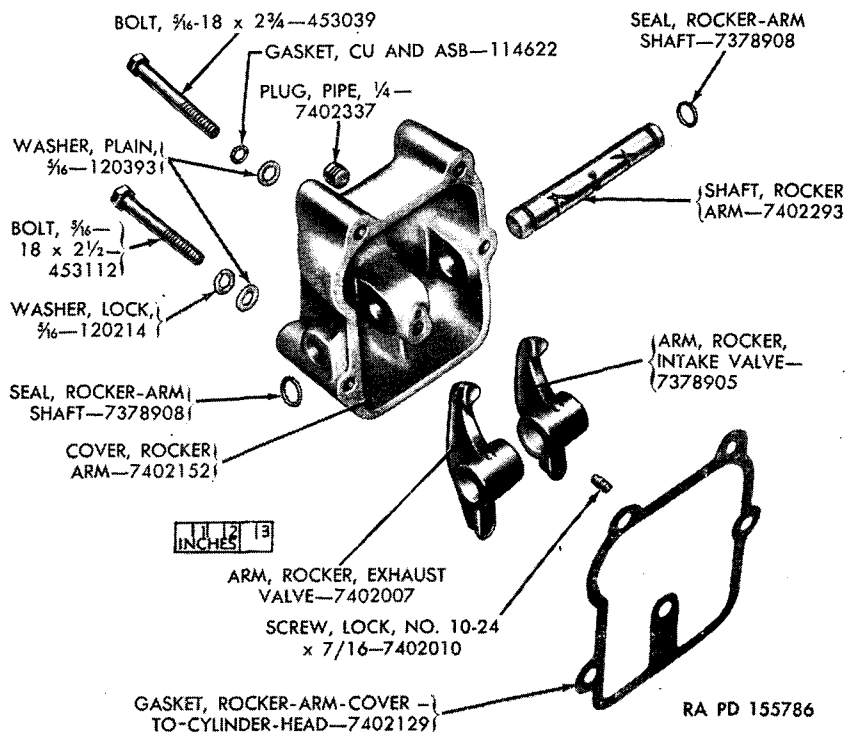

Figure 76. Rocker arms, shaft, and cover—exploded view.
- a. Loosen 10-24 x $\frac{7}{16}$ lock screw (fig. 76). Slide rocker-arm shaft out one side of rocker-arm cover just far enough to remove rocker-arm-shaft seal from rocker-arm shaft.
- Start 10-24 x $\frac{5}{16}$ lock screw into tapped hole in cover (fig. 76). Aline rocker-arm-shaft lock screw hole with tapped hole in cover and aline slot in shaft for cover bolt with bolt hole in cover. Pilot rocker-arm shaft through bearing bore at one side of rocker-arm cover, on
d. Assemble rocker-arm-shaft seal in groove at exposed end of rocker-arm shaft and continue piloting shaft through bearing bore at opposite side of rocker-arm cover until other seal groove is exposed (fig. 76). Position other seal and slide rocker-arm shaft back into proper position. A cross slot is provided at one end of the rocker-arm shaft to permit use of screwdriver in turning shaft to correct position (fig. 4).